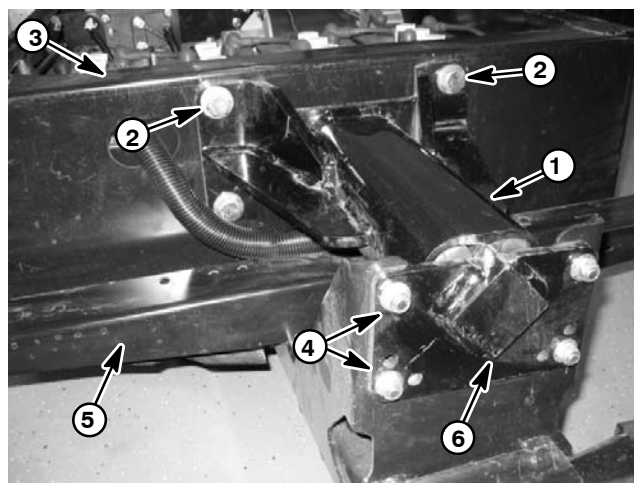

Figure 10
5. Remove four (4) cap screws and flat washers securing the pivot yoke to the rear frame (Fig. 10).
1. Position pivot yoke to the front frame so the diamond pattern faces up (Fig. 10). Secure yoke to front frame with four flange head screws and flanged lock nuts. Tighten lower two fasteners first, then tighten upper two fasteners.